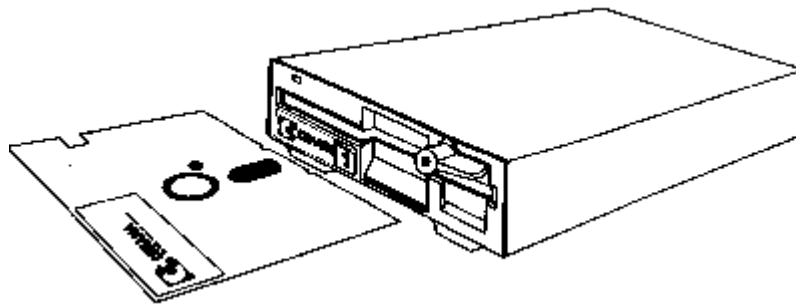

Fig. 2.1. Inserting a 5 1/4" floppy disk into the drive.
a) Push the diskette fully home and turn the locking lever clockwise as shown in Figure 2.1.